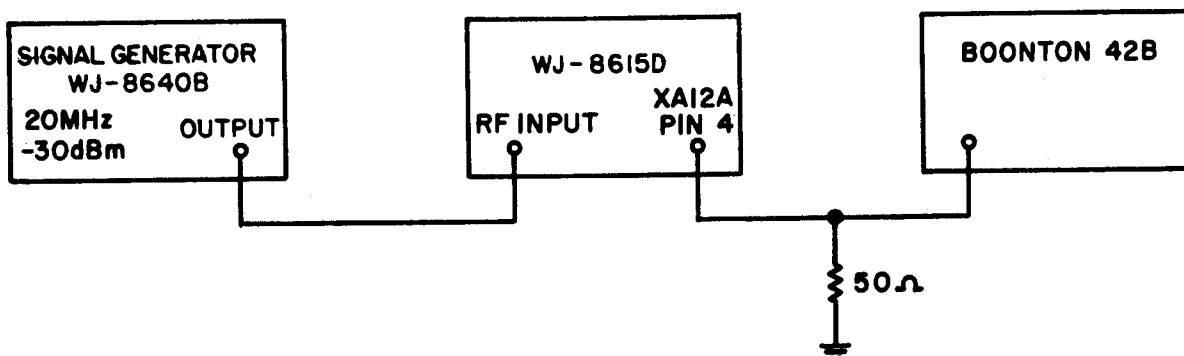

Figure 4-5. Preamplifier/Converter Performance Test, Equipment Connections
- 1) Connect the test equipment as illustrated in Figure 4-5.